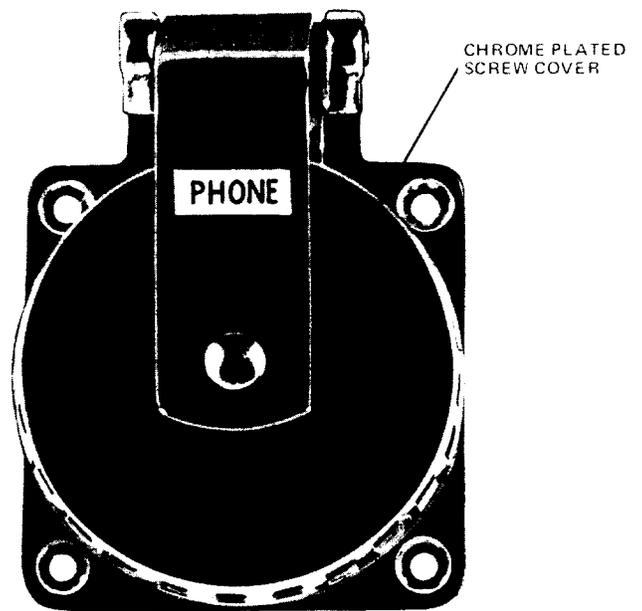

Fig. 14—B Waterproof Male Jack (Front View)
2.10 The B waterproof male jack (Fig. 14 and 15) is mounted on a boat using stainless steel screws. These screws replace the chromeplated brass screws which had a tendency to snap off when screwed into fiberglass. The jack is compatible with the female plug of the B weatherproof cord to provide telephone service. It is chrome plated with a hinged screw cover which makes the jack waterproof when not in use. Three screw terminals stamped R, T, and GR on the rear of the jack provide connection to ring, tip, and ground. A rubber boot covers the screw terminals on the rear of the jack to minimize the possibility of accidental contact with these terminals.
- One B waterproof male jack (mounted on boat to accept cord, Fig. 14 and 15)